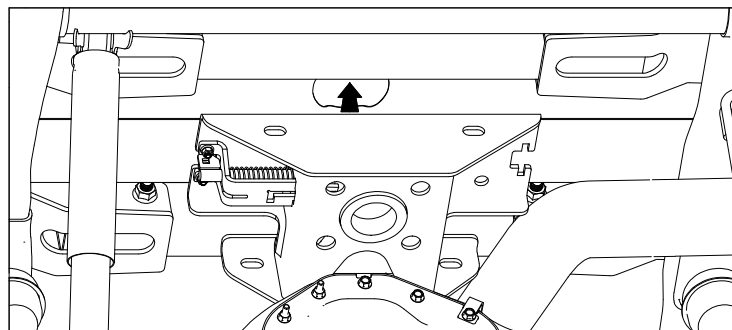

Figure D2: View under truck looking above differential.
2. **Mount center section between cross members.** Push the front cross member forward and the rear cross member rearward so that there is room between them for the center section. With the latch pin assembly on the driver side, lift the center section into place so the raised portion of the center section passes into the 4" hole drilled into the bed, see Figure D2. Slide each of the cross members towards the center section and push 5/8" bolts in to place.